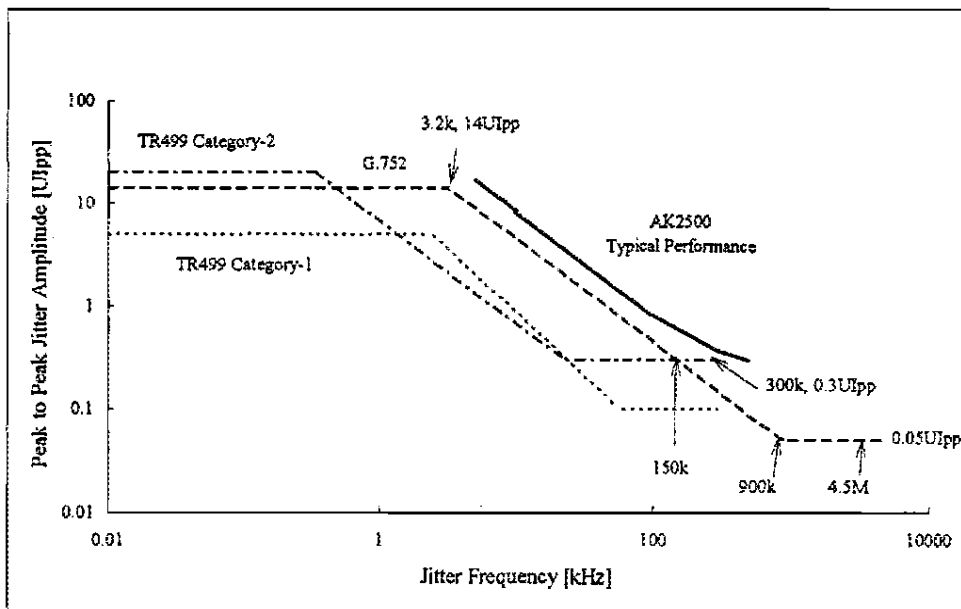

Figure 1 Typical AK2500 Input Jitter Tolerance (DS3)
5. Typical performance is shown in Figure 1.